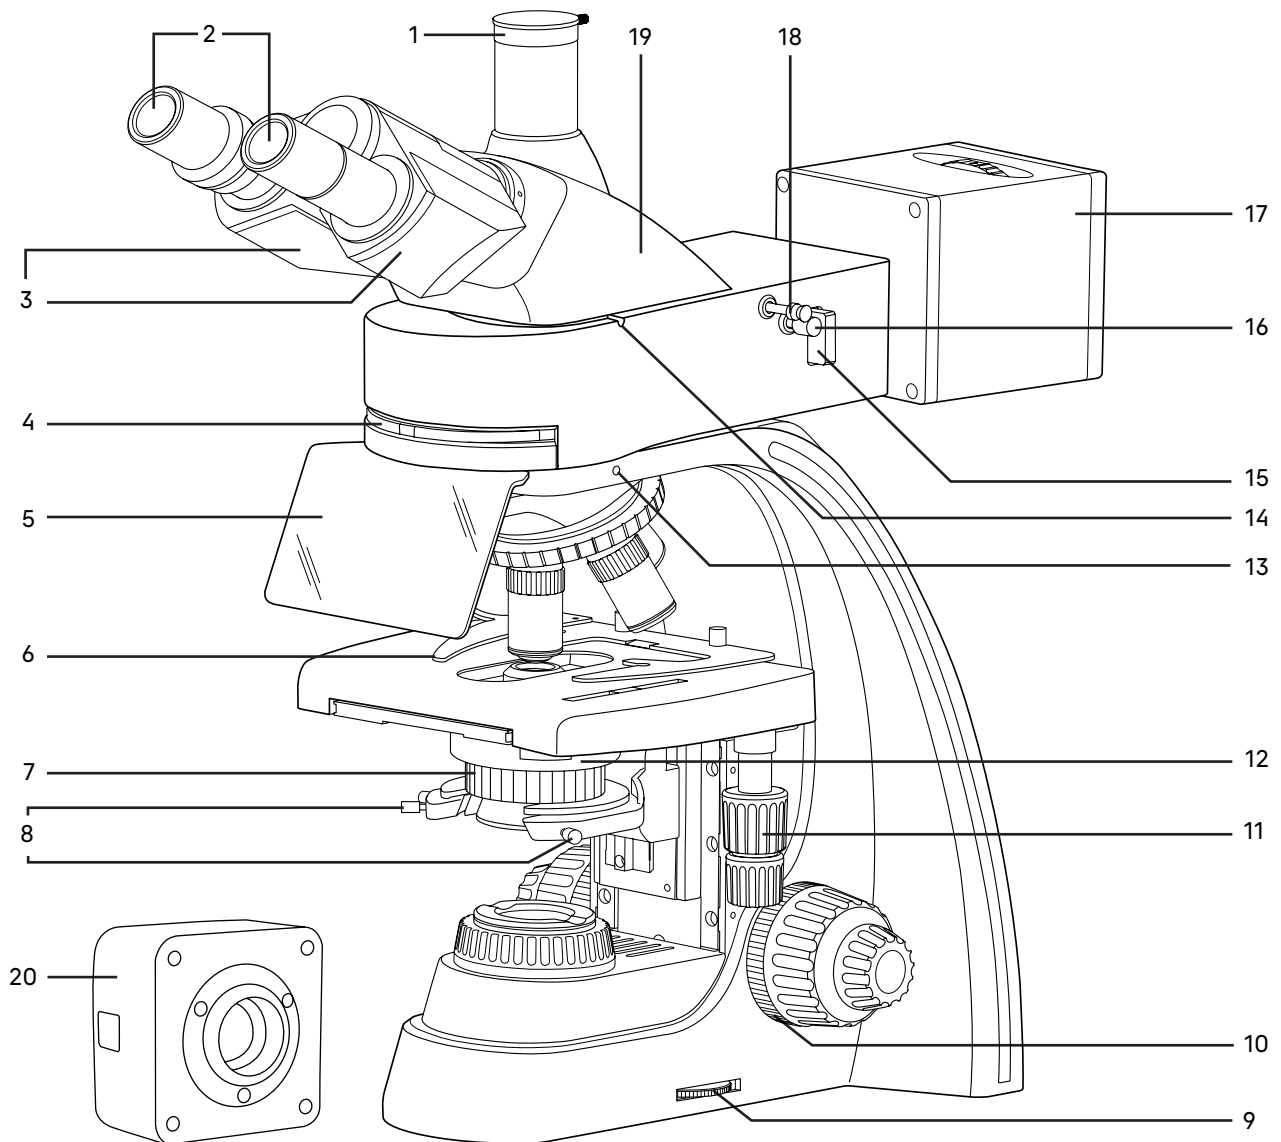
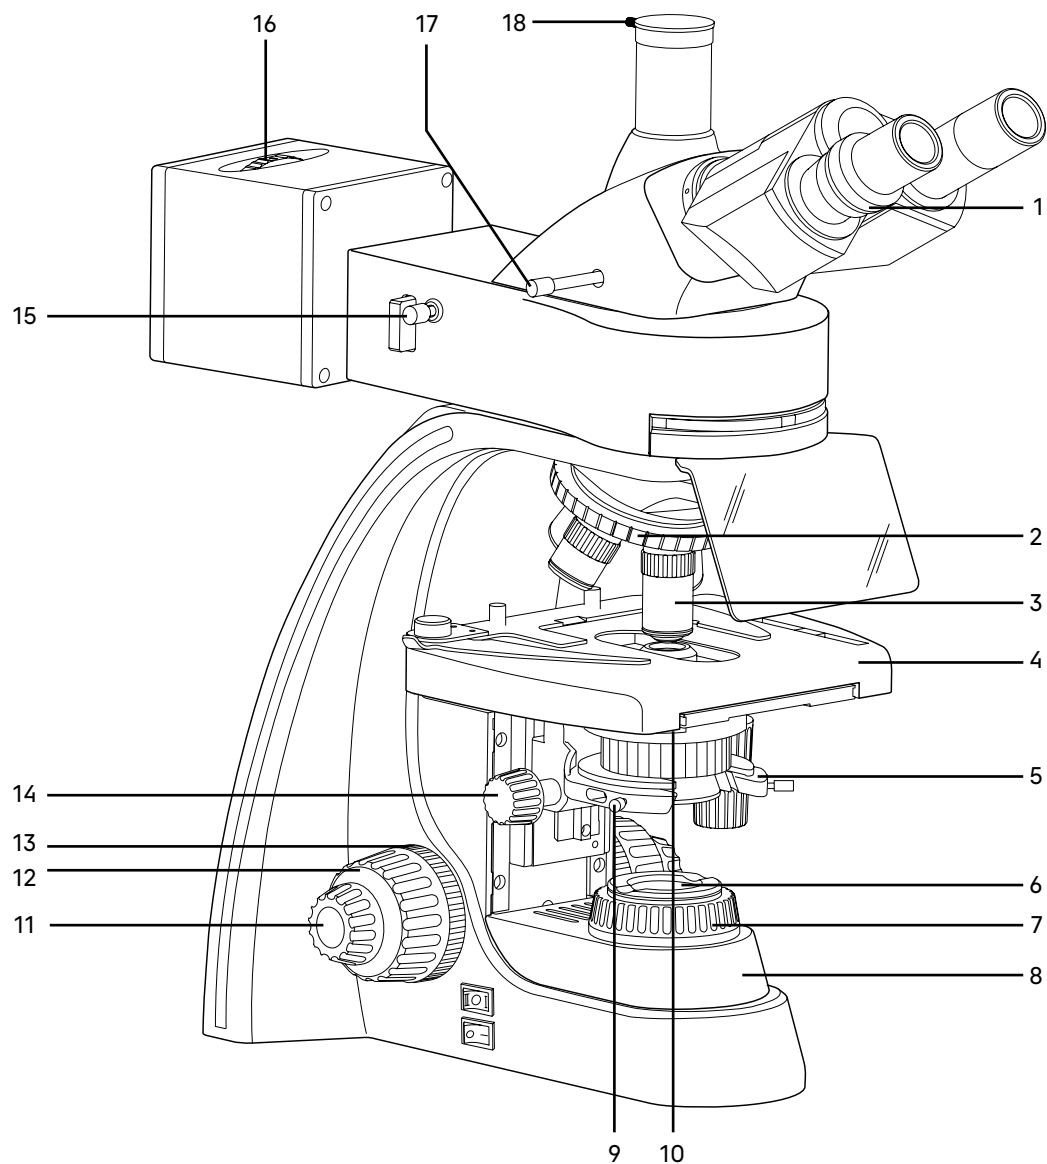

Fig. 1. MAGUS Lum D400L Fluorescence Microscope. View from the right
Fig. 2. MAGUS Lum D400L Fluorescence Microscope. View from the left
The general view of the microscope is given in Fig. 1,2, and 3.
The stand 8 (Fig.2) is a one-piece structure with the base. The base has Y-shaped stable ergonomic design.
- revolving nosepiece 2 (Fig. 2) with objectives 3 (Fig. 2)
- stage 4 (Fig. 2)
- condenser mount 5 (Fig. 2)
- collector with field diaphragm 6 (Fig. 2).
The ring 9 (Fig. 1) is used to adjust the supply voltage of the transmitted and reflected light source.
Focusing on the specimen is achieved by adjusting the height of the stage 4 (Fig. 2). Coarse focusing is performed by rotating the coaxial knobs 12 (Fig. 2) on both sides of the microscope stand.
Fine focusing is performed by rotating the knobs 11 (Fig. 2) on both sides of the microscope stand. Fine focusing allows for precise focusing on the specimen and re-focusing the microscope to get an accurate image resolution when changing objectives and specimens.
The coarse focusing tension adjustment is performed by the ring 10 (Fig. 1) between the stand and the coarse focusing knob on the right side. The ring adjusts the coarse focusing tension so that the tension is comfortable for the user, but the stage does not lower spontaneously during operation.
The coarse focusing lock knob 13 (Fig. 2) is located on the left side. Once the coarse focusing is completed, we recommend rotating the knob clockwise as far as it will go. This secures the coarse focusing position to allow for rapid re-focusing after the specimen is changed.
The microscope head 19 (Fig. 1) provides the visual observation of the specimen image. It is installed in the mounting hole of the top flange of the reflected light illuminator 4 (Fig. 1) and secured with the clamping screw 14 (Fig. 1). When installing the microscope head, turn the eyepieces towards the stage.
The interpupillary distance is adjusted by rotating the eyepiece tubes 3 (Fig. 1) in the range of 48–75mm. The distance between the eyepieces matching the observer's interpupillary distance is marked on the adjustment scale.
The eyepiece diopter adjustment is intended to compensate for the observer's ametropia. It is located on the left eyepiece tube – ring 1 (Fig. 2). The second eyepiece tube is fixed.
A C-mount 1x adapter is installed in the trinocular tube 1 (Fig. 1) of the microscope head to fix the camera. The camera is used to transmit the image to a computer screen or monitor/TV. You can switch the light path to the trinocular tube using the lever 17 (Fig. 2). The lever has two positions: 100/0 and 0/100.
The microscope kit includes eyepieces 2 (Fig. 1). The eyepieces have high eye relief and are designed to work with or without glasses.
Revolving nosepiece 2 (Fig. 2) allows for the installation of five objectives 3 (Fig. 2). Objectives are changed by rotating the knurled ring of the revolving nosepiece until the objective fits into place.
Objectives 3 (Fig. 2) are designed for the infinity-corrected tube length. Parfocal distance – 45mm, linear field of view – 22mm. They are designed to observe the specimen with the 0.17mm coverslip or without a coverslip. The microscope is equipped with 4x, 10x, 40x (fluorescence), 100x plan achromatic objectives. Optional plan achromatic 20x and 60x objectives and a plan achromatic fluorescent 10x objective are available.
The condenser 12 (Fig. 1) is installed using the mount 5 (Fig. 2) under the microscope stage. It features a dovetail mount. The condenser is mounted using the guides with the specimen stage raised and the mount lowered. You can move the condenser along the optical path of the microscope using the condenser focus knob 14 (Fig. 2) located on the left of the observer under the stage. The condenser focusing range: at least 33mm.
The condenser has a slot 10 (Fig. 2) for darkfield and phase-contrast sliders.
The condenser mount has a spring-loaded holder which allows for centering the condenser in the optical path using two screws 8 (Fig. 1). The condenser is secured in the holder by the screw 9 (Fig. 2).
The X/Y stage 4 (Fig. 2) allows for moving the specimen in two mutually perpendicular directions using the knobs 11 (Fig. 1) located on the same axis.